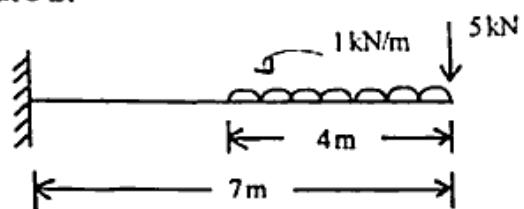

Figure 2
- (e) Draw S.F.D and B.M.D of the beam shown in Figure 2.